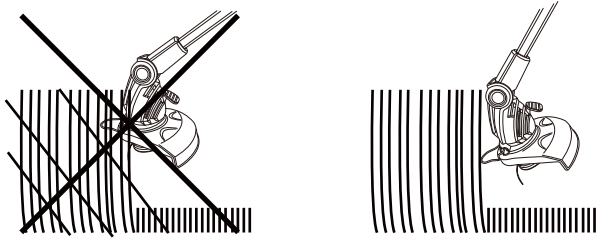

Fig 15
8. Trim longer grass in stages; do not cut long grass in one cut. For the best results, cut longer grass in steps (Fig 15).